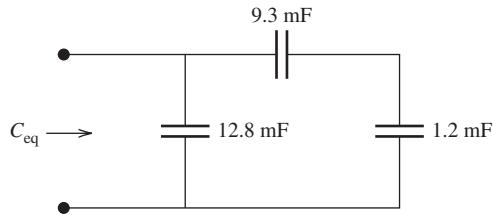

FIGURE P4.26 Circuit for Problem 4.26.
- 4.26 (B)** For the capacitor network in Figure P4.26, what is the equivalent capacitance, C_{eq} ?